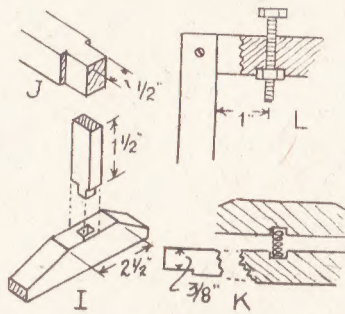

Fig. 2
two pieces of wood  $\frac{3}{4}$  in. wide and  $\frac{1}{2}$  in. thick to the length given at (I) in Fig. 2, plus the depth of the mortise. Glue these parts in the feet, then bevel the ends down, as shown in the diagram.
Before replacing the top crossbar, bore a hole  $1\frac{1}{2}$  ins. from each end, for the adjusting screws to enter. These are a pair of  $\frac{1}{2}$  in. by 2 in. or 3 in. steel bolts, with hexagon heads and nuts. In the underside, chisel out recesses for the nuts to enter about halfway, as at (L) Fig. 2. Now replace the bar, and turn the bolts until they press, not too heavily, on the rollers. A good idea is to bore a shallow recess in the top bar, at each of the places the bolts bear upon, to prevent any side shifting of the bar.